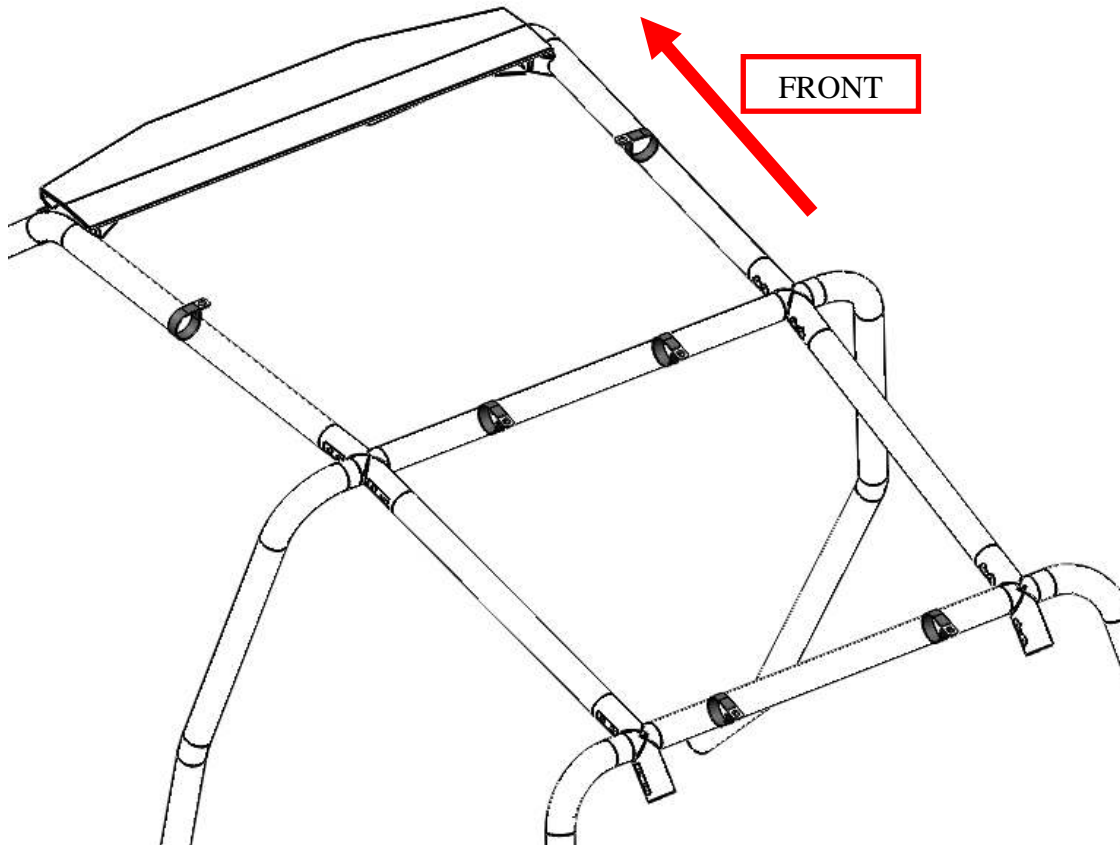

Figure 4: Approximate clamp locations.
2. Spread the clamps by hand and slide them over the cage tubing. Place them on the cage in the approximate locations shown in Figure 4. Note the orientation of the clamp tab. It must line up hole flat against the top on the correct side of the tubing.